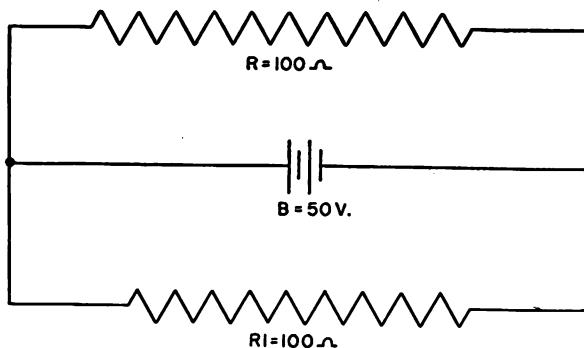

Figure 59. Resistance measurements functional schematic.
(1) **CURRENT AND RESISTANCE IN PARALLEL CIRCUITS.** A series circuit can offer only one path for the flow of current; a parallel circuit, however, may offer any number of paths (always more than one). In a parallel circuit the current paths must be so arranged that the voltage source may act independently upon each. In figure 59, battery B causes current to flow through two resistors, R and R1. The current flowing through R is dependent upon the value of R and the voltage of B. A similar condition exists in the R1 circuit. The value of R1 and the voltage of B determine the current in that branch. The removal of resistor R would not interfere with the current flow through R1. Conversely, the removal of R1 would not affect the current flow through R. In each case, the branch currents depend upon the resistance of the individual branches. According to Ohm's law, as shown below, the current through R is 0.5 ampere (500 milliamperes), and the current through R1 is 0.5 ampere (500 milliamperes).
(a) In figure 59, the resistors R and R1 are in parallel, because they are connected between the same two points in the circuit. Two units are also in parallel when they are connected in *shunt* with each other. Use of the term *shunt* signifies a parallel connection.
or resultant resistance is the value of one of the units divided by the number of units connected in parallel. Figure 59 shows two 100-ohm resistors connected in parallel. The resultant resistance of this combination is  $100/2$  or 50 ohms. If figure 59 contained 10 such units, the resultant resistance would be 10 ohms.